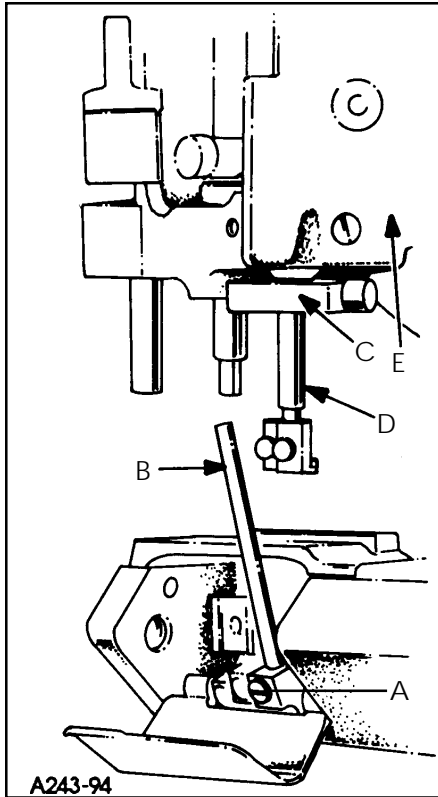
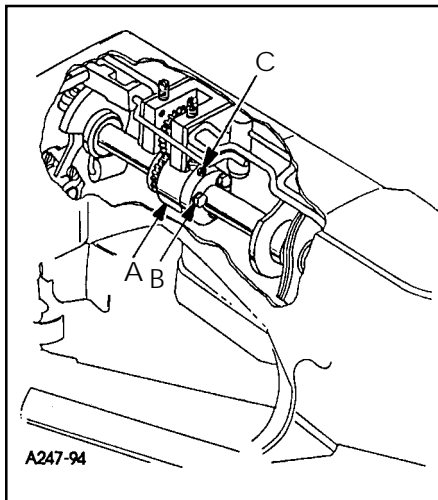

FIG. 2
FIG. 3
To synchronize the machine, remove the needles, presser foot, throat plate, feed dogs and upper feed roller mechanism. Rotate handwheel in the operating direction until the needle bar is at the bottom of its stroke and just begins its upward travel. Loosen screw (A, Fig. 2) and remove the looper for the left hand needle from the looper holder. Insert a straight steel rod (B) 5/32" (3.9mm) or 11/64" (4.3mm) diameter by 2-1/2" (63.5mm) long into looper holder and retighten screw (A). It may be necessary to reposition the looper holder so that the rod (B) will be in a vertical position when at its farthest travel to the right. Rotate the handwheel until the rod is at extreme left, reinstall the throat plate. Turn the handwheel in the operating direction, with needle bar rising until rod (B) comes in contact with the edge of the throat plate. At this point, clamp Union Special timing gauge TT147 (C) around the needle bar (D), flush against the underside of the machine casting (E). Rotate handwheel in the opposite direction until either the gauge contacts the machine casting on the up stroke of the needle bar or the rod contacts the edge of the throat plate. Maximum allowable clearance between gauge and casting or rod and throat plate is .005" (0.1mm)
Both ends of the adjustable split coupling are secured to the crankshaft and main shaft by spot screws and set screws. On the main shaft end of the coupling (A, Fig. 3) three screws (B) thread horizontally through the coupling. The holes in the main shaft end of the coupling are larger than the diameter of the screws, permitting several degrees of rotation in either direction to properly synchronize the needle and looper. Loosen the three horizontal clamp screws (B, Fig. 3). With rod (B, Fig. 2) at its farthest position to the left, snug the uppermost horizontal clamp screw enough to hold coupling (A, Fig. 3) in position. If the handwheel is turned in reverse of operating direction and gauge (C, Fig. 2) on needle bar (D) contacts the machine casting (E) before rod (B) contacts the edge of the throat plate, loosen horizontal clamp screw (B, Fig. 3) which was snug, while holding the coupling in place with an Allen wrench in set screw (C). Rotate the handwheel slightly in reverse of operating direction, snug the uppermost horizontal clamp screw (B), recheck synchronization. If the handwheel is turned in reverse of operating direction and the rod contacts the edge of the throat plate before the clamp gauge contacts the machine casting, adjust as before, except turn the handwheel slightly in the
operating direction. Use shim stock to insure no more than .005" (0.1mm) exists between gauge and casting or between rod and throat plate, in both the operating and reverse directions of the handwheel. When this setting has been made, tighten the three horizontal clamp screws (B, Fig. 3) securely, and recheck both clearance points with .005" (0.1mm) shim gauge to assure no slippage occurred while tightening the screws.